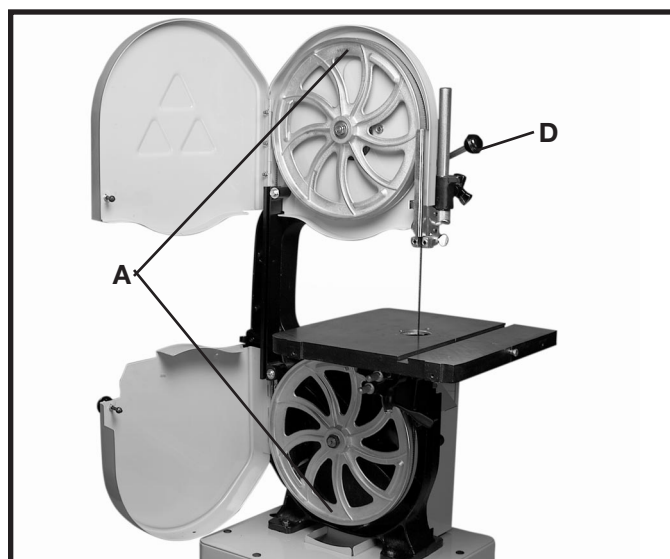

Fig. 32
5. Place the blade around the two wheel assemblies (A) Fig. 32.
8. Move the quick tension lever (D) Fig. 32, to the left position (when facing the rear of the saw) to put tension on the blade as shown.